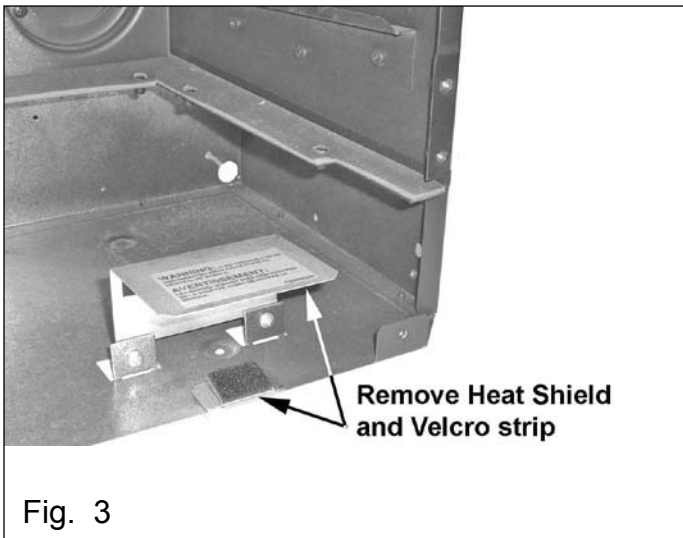

Fig. 3
- Remove Heat Shield and Velcro Strip (see Fig. 3).